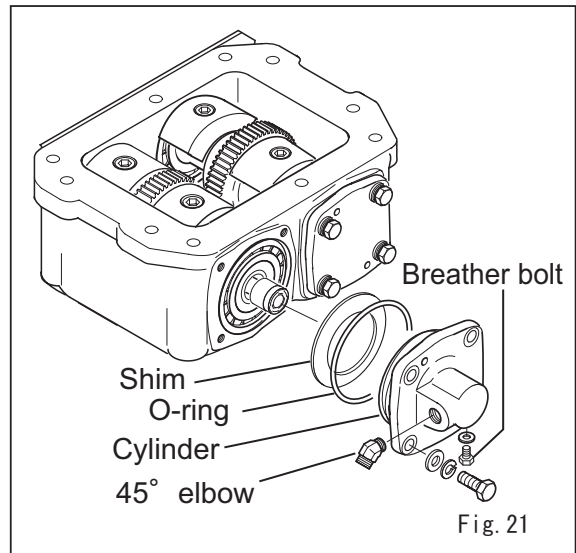

Fig. 21
Install o-ring to the cylinder and coat it with grease. (Fig. 21)
- f. Install 45° elbow and breather bolt on the cylinder. (Fig. 21)